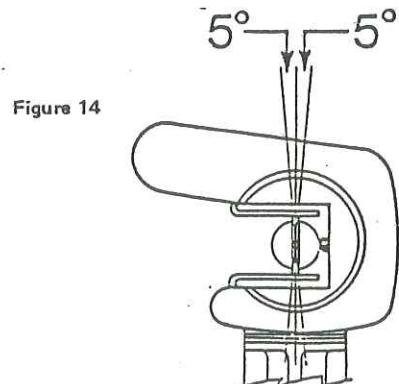

Figure 14
4. When the operating arm at the base of the rotating insulator is against the closed position stop, the blade tip should be vertical in-the-jaw contacts. (Figure 14)
The switch is completely closed when the blade tips are completely vertical in the contacts as shown in Figure 14 on page 8. It is fully open when the operating arm on the rotating stud bearing travels to within 1/8 inch of the open position stop.